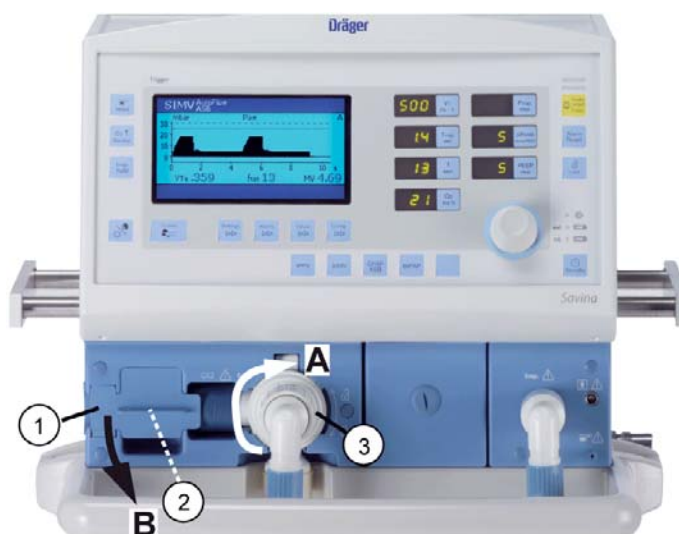

Fig. 41 View of Savina; fitting expiratory valve
2. Push the expiratory valve into the mount on the unit until you feel a resistance and turn the bayonet ring (Fig. 41/3) of the expiratory valve all the way to the right towards **A** until you feel it lock in place.
4. Slide the flow sensor (Fig. 41/2) to the right into the flow sensor sleeve.
5. Swivel the flow sensor flap (Fig. 41/1) down towards **B**.